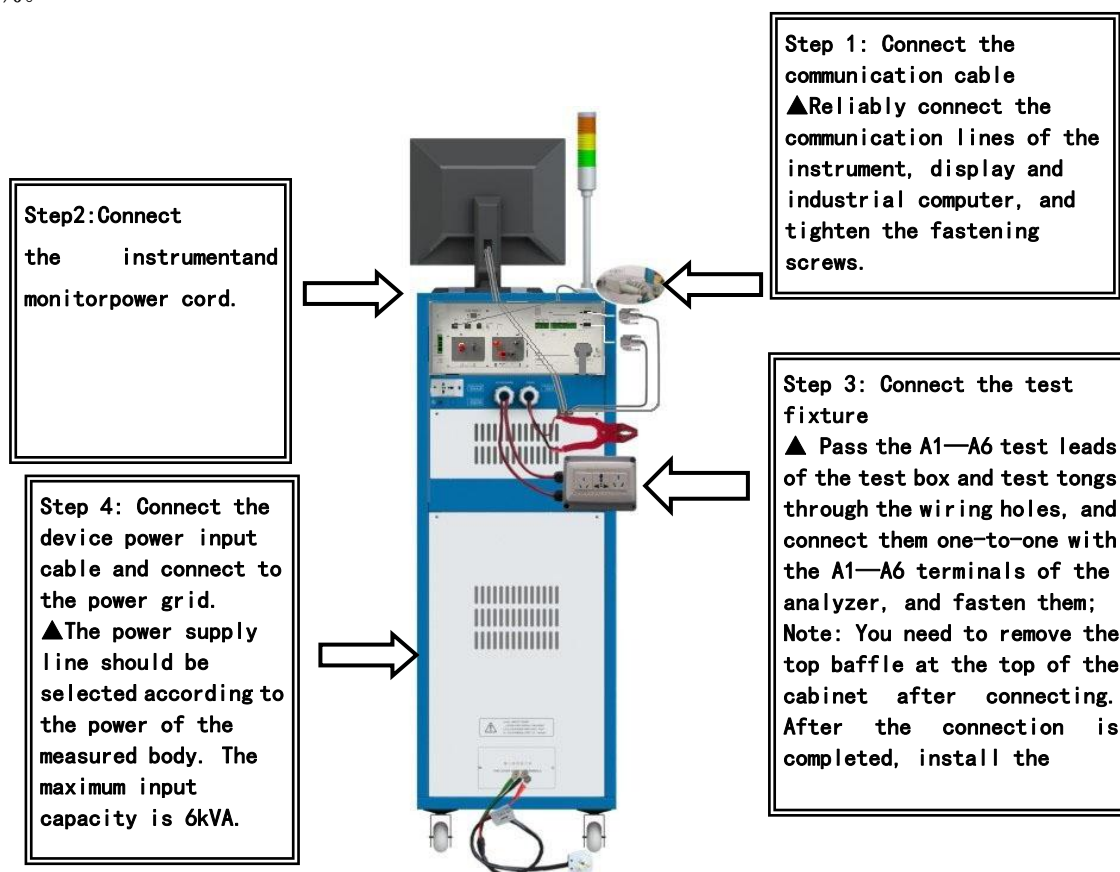

Figure 2-5-3 Wiring diagram of the comprehensive test system
(2) According to the actual wiring diagram of the system, connect each instrument according to the specified wire, including the power supply line, communication line and test fixture of each single meter, as shown in Figure 2-5-3, confirm that the power supply is single-phase 220V $\pm$ 10%, 50Hz $\pm$ 5%.